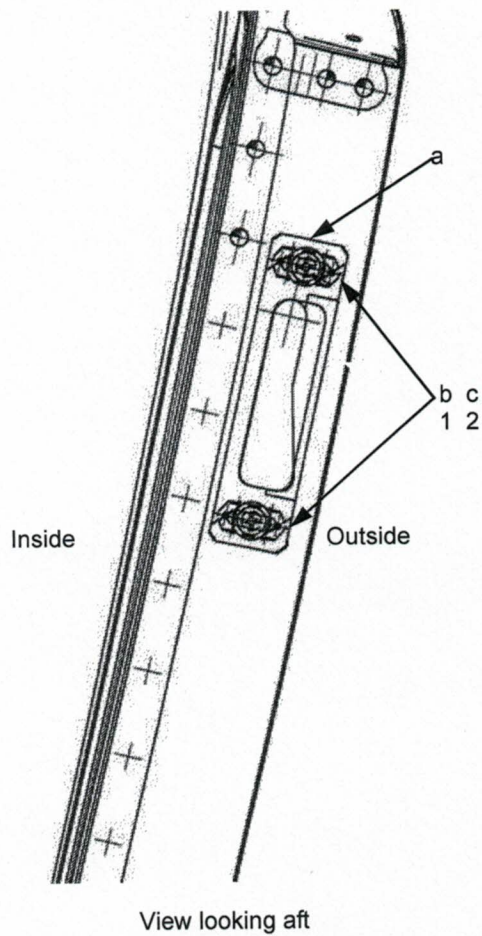

Figure 2
- .. If missing, trace a mark on both attachment screws (d) **as per Detail B of Figure 2**.
3.B.2. Adjustment of rear upper LH catch (a) (Figure 2)
- Loosen attachment screws (d) (Figure 2) without removing them.
3.B.3. Visual inspection of the marks of the attachment screws of rear LH upper catch (a), (Figure 2)
3.B.4. Inspection of rear LH upper catch (a), (Figure 2)
- Remove attachment screws (d) and washers (e), (Figure 2).
3.B.5. Replacement of the anchor nuts of rear LH upper catch (a). (Figure 2)
- Remove attachment screws (d) and check their condition, (Detail B, Figure 2).
- Remove rear LH upper catch (a), (Detail A, Figure 2).
- Install anchor nuts (1) with rivets (2).
- Install rear LH upper catch (a) with washers (e) or (4) and attachment screws (d) or (3).